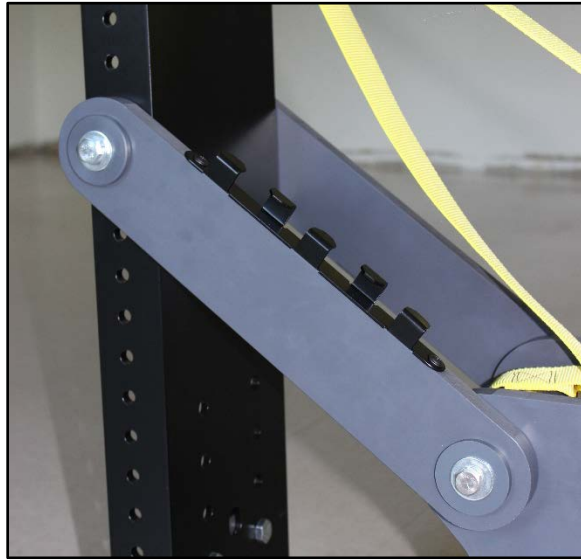

Figure 3: Attach cable restraint to antenna mount assembly.
- c)** Attach cable restraint to the arm of the gray plastic antenna mount assembly (Figure 3).